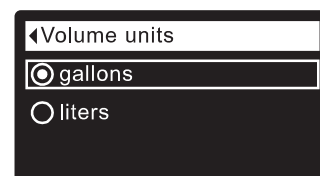

FIG. 61
5. Press the SELECT (O) button to display the Volume units menu (See Figure 61).
6. If the desired volume unit already has a dot next to it (See Figure 61), go to Step 7. Otherwise, press the DOWN (▼) or UP (▲) buttons to scroll to the other volume unit, then press SELECT (O) to choose it.
7. Press the SELECT (O) button. The display will go back to the User preferences menu.